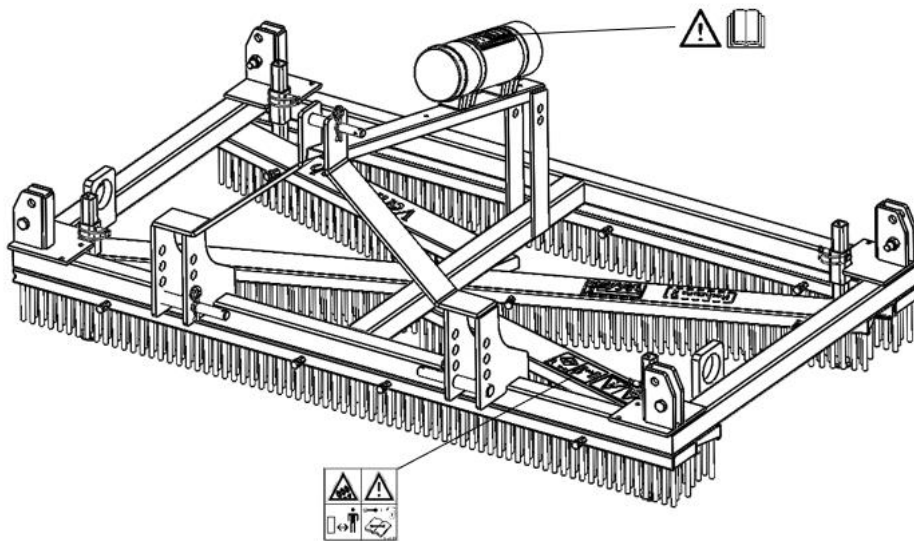

Figure 5
Safety stickers (Figure 2, 3 and 4) with an identical meaning are attached to both sides (Figure 5) of the Verti-Comb. These safety stickers must always be clearly visible and legible and must be replaced if they have become damaged.
7. Location of the safety stickers (Figure 5).